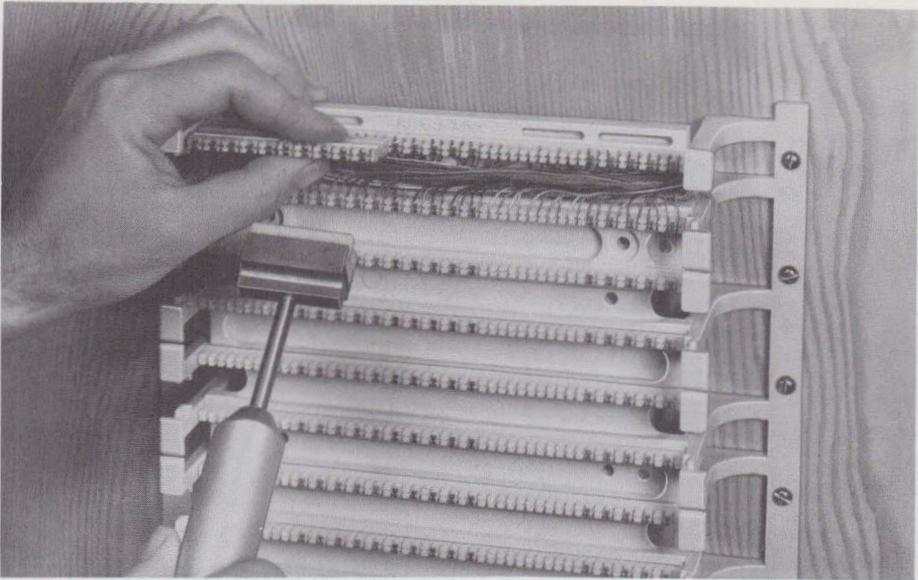

Fig. 18—Connecting Block Placed on Index Strip
3.16 The conductors are electrically terminated by placing an 88-type connecting block on the wiring block using the insertion tools. Properly align connecting block in the index strip (Fig. 18), then seat the block with a straightforward motion (do not rock) using the 788B1 or 788H1 tool.